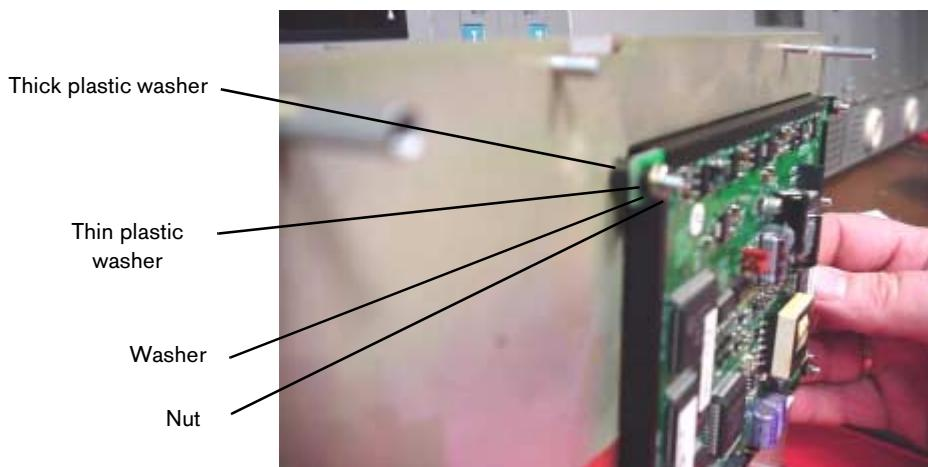

Fig. 75 EL display
11. Install new EL display using plastic washers, washers, and nuts (Note: Pay attention to different thickness of plastic washers and their correct fitting positions, see Fig. 75!).